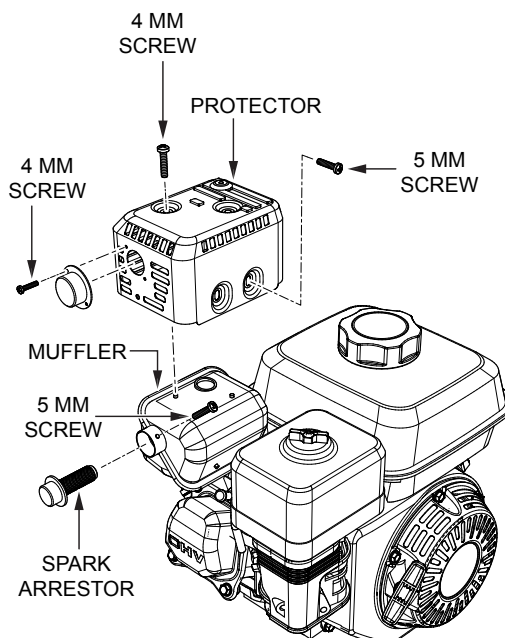

Figure 34. Spark Arrester
1. Remove the 4 mm screw (3) from the exhaust deflector (Figure 34), then remove the deflector.